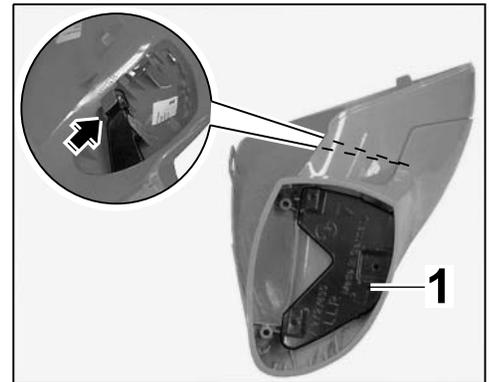

Figure 8
4.3.1 Insert lower bracket ⇒ *Figure 8* -**1**- into the guide ⇒ *Figure 8* -**arrow**- for the left cover (upper part of housing).